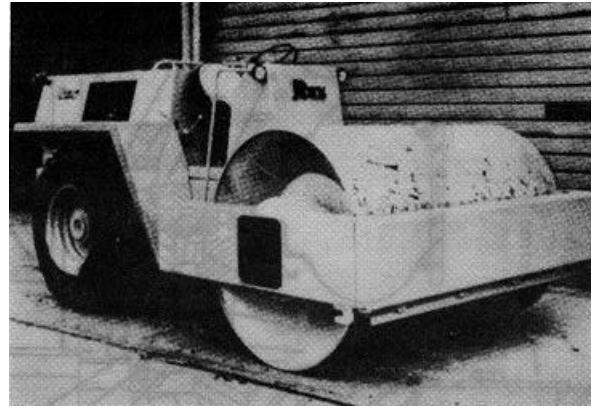

FIGURE 26
7. Figure 26 Using a sizable pry bar, place pry bar between roller frame and edge of roller on the side being repaired and pry to force the roller frame away from the roller as far as possible. This will permit more clearance to remove the isolator.